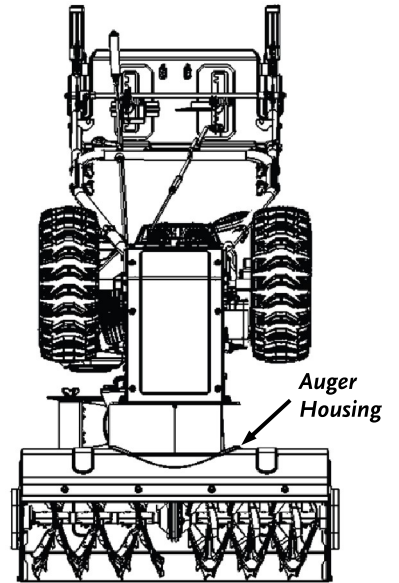

Figure 54
5. Remove the Cotter Pin and Washer from the Drive Pulley Pivot Rod (**Figure 54**).
2. With the help of another person, tip the SNOW BLOWER onto the Auger Housing (**Figure 54**).